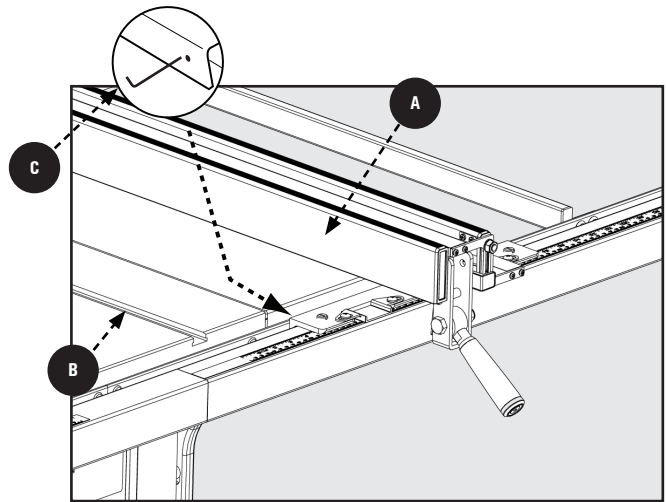

Figure 34
2. If the fence face **A**, Figure 34, is not parallel to the miter slot **B**, raise the clamping lever and lift the fence and place it on the saw table.